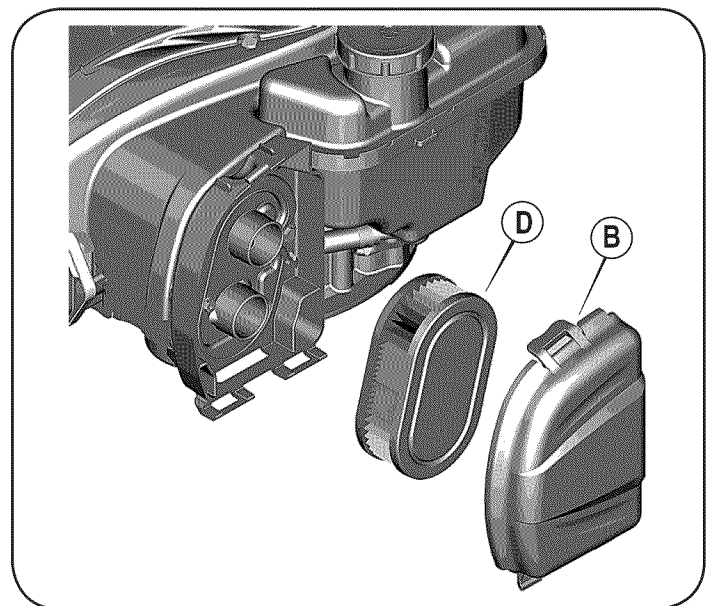

Figure 15
1. Open the cover (B). See Figure 15.
2. Remove the filter (D).
4. Install the filter (D).
5. Close the cover (B).